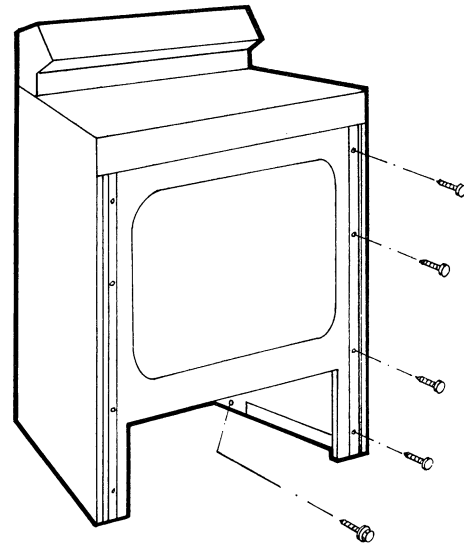

Figure E7
4. Remove the five screws from the front of the bodyside and one screw from the inside rear of the compartment area. (See Figure E7)